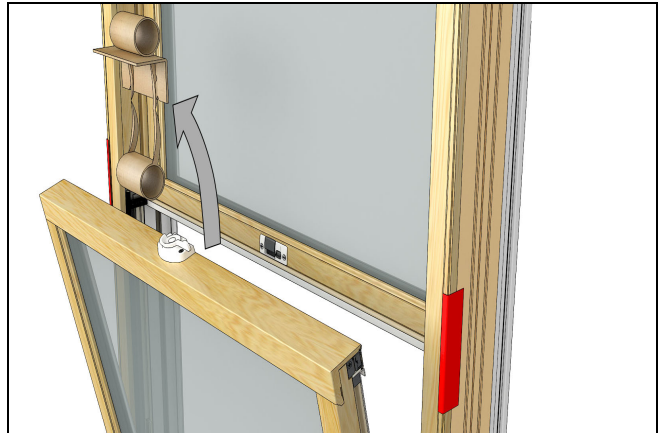

Figure 7
4. Tilt the sash out, then remove shipping tube assembly and tilt sash back into frame with center button depressed and handle rotated to 180°. See Figure 7